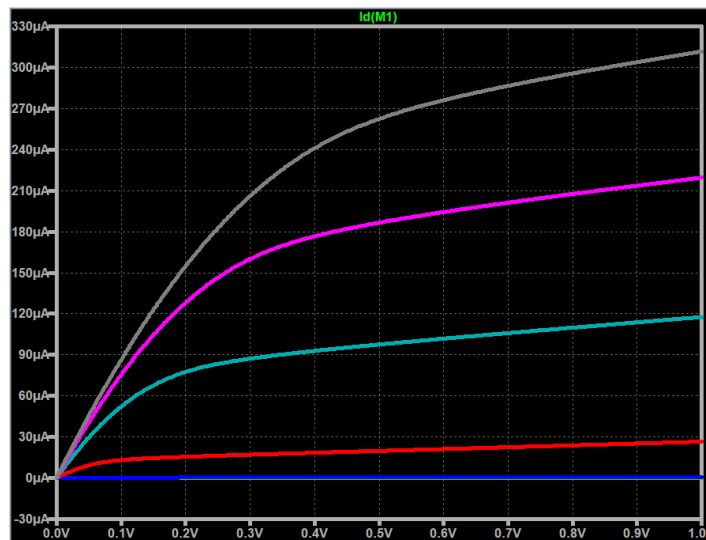
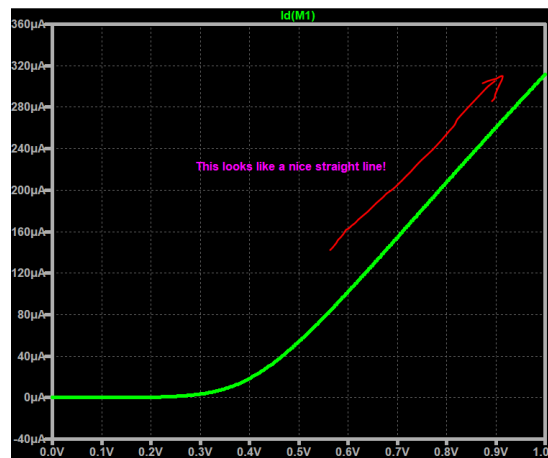

Figure 2.4 Parametric DC Sweep for the Short-channel NMOS Transistor
Figure 2.6 I_{DS} vs V_{DS} (or V_{GS}) curve for diode connected NMOS transistor
4. **Plot the drain current again and you should arrive with Figure 2.4.** This figure is called **the parametric DC sweep analysis** where the V_{GS} is said to be parametrized from 0V to 1V in 0.2V increments.
In this figure we can interpret and relate it to the fundamental theories we know. The bottom two plots ($V_{GS} = 0.2V$ and $0V$) have very low current compared to the next V_{GS} step ($V_{GS} = 0.4V$). This indicates that the threshold voltage is somewhere in between $0.4V$ and $0.2V$. One thing for sure is that at $V_{GS} = 0.2V$ the “switch” is still off. Recall that the transistor turns on if and only $V_{GS} \geq V_{THN}$. For higher V_{GS} values, we can estimate V_{THN} by looking at the transition from the linear region into the saturation region. For example, consider the red plot of Figure 2.4. That’s when $V_{GS} = 0.4V$, and if we try to “eye-ball” the point of transition. It would roughly yield to around $V_{DS} = 0.1V$. Now recall that $V_{DS,SAT} = V_{GS} - V_{THN}$ for the NMOS transistor. If we take the reading $V_{DS,SAT} = 0.1V$, because this is the point of transition, then it follows that $V_{THN} = V_{DS,SAT} - V_{GS} = 0.4 - 0.1 = 0.3V$. The actual threshold voltage (assuming $V_{SB} = 0V$) is at $0.28V$ or $280mV$ for the NMOS short-channel transistor. Take note, the “eye-ball” method of estimating the threshold voltage is a poor and unreliable method.
This way we only have 1 DC source to sweep and this plot can give the current and *transconductance* (derivative of the current) exactly at saturation. We will get back to this later on. The point is that there are other ways to plot the current with different setups and we get valuable information depending on what we want to show. There’s something noteworthy of an investigation in Figure 2.4. In the region when the transistor is on, how does current increase with increasing V_{GS} ? I_{DS} vs V_{DS} (or V_{GS}) for the diode connected transistor is shown in Figure 2.6. It shows a straight line which is consistent to the short-channel equation current:
Emphasis is given to the word “modelled” because this does not really describe the exact resistance of the R_{NMOS} . In fact, if you review the lecture slides and refer to our I_{DS} vs V_{DS} curves, the resistance of the transistor changes through time. For example, consider the time when the switch “just turned on”. That is when $V_{GS} = 1V$, and $V_{DS} = 1V$. The current region of operation of the transistor would be in saturation. Recall Figure 2.4, right-most point in the pink plot. That’s $V_{GS} = 1V$, and $V_{DS} = 1V$. But when the capacitor starts discharging to ground, we are essentially moving along the pink plot moving towards the left until $V_{DS} = 0V$. At this point we are already at the linear region and the resistance is different from the saturation region. As we move along the pink curve, the effective resistance changes all throughout! Now, that’s something difficult to model because we would need to use the equation from the lecture slides:
Oh no, we don’t want that! Just kidding but it is important to internalize the implications of this equation: The equivalent resistance would be the integration of each resistance step of the plot in Figure 2.4. That’s the gist of it! Don’t worry, we’ll use a more practical approach!